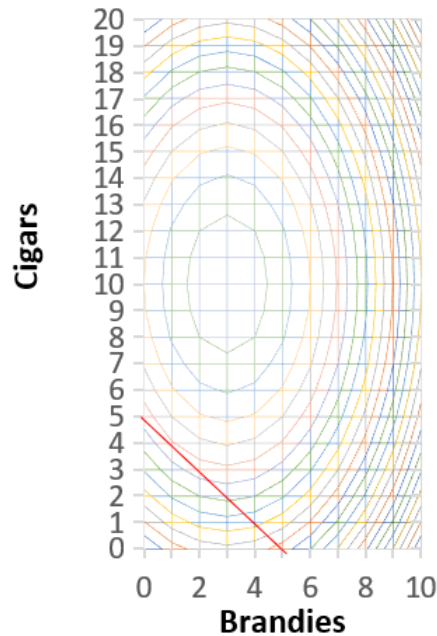

Figure 6.7: Understanding contour lines with *Wireframe* chart.
**STEP** Carefully place a line (use the *Line* object in the *Shapes* collection) from the point 0, 5 to 5, 0 as shown in Figure 6.7.
At the optimal solution (at 1, 4), there is a contour slightly above and another below. The curve above has a utility value greater than 79 and the one below is less than 79. There is a curve not shown in Figure 6.7 that is in between the two contours above and below point 1, 4. This contour just touches the constraint line and it has a utility value of exactly 79. This contour is *tangent* to the diagonal constraint.